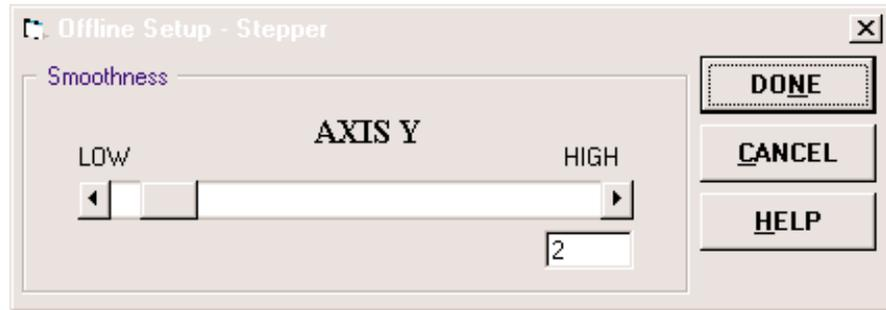

Figure 5.8 - Stepper Axis Setup
**B. Step/Dir:** If a step or direction signal is selected, a stepper motor setup window, as shown in Fig. 5.8, will display for setting stepper smoothness. The parameter smooths the frequency of the step motor pulses. Larger values of smoothness constant provide greater smoothness. The default value is 2. Note that the smoothness results in a longer motion time.